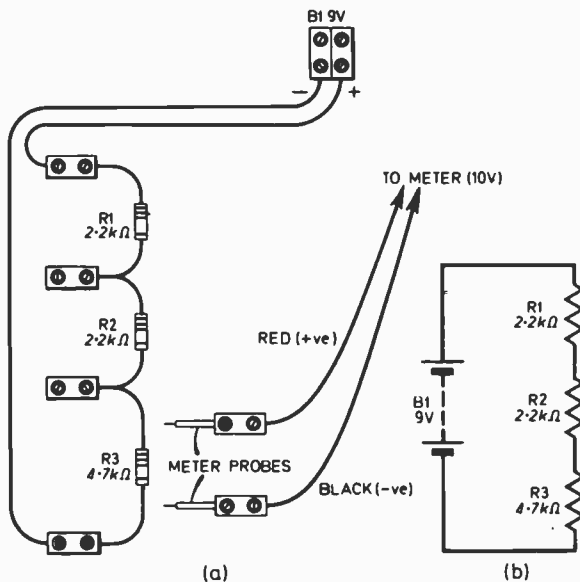

Fig. 2A.1. The layout and connecting details of the components on the Circuit Deck. Also shown is theoretical circuit diagram.
1. Assemble the components as shown in (Fig.2A.1)